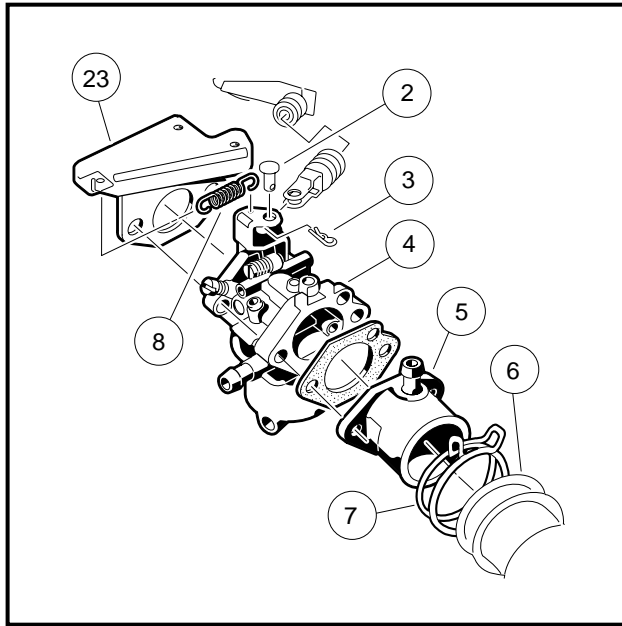

Figure 13-6 Carburetor Removal
3. Loosen air intake hose clamp (7) from intake pipe (5) and remove hose (6) (**Figure 13-6, Page 13-9**).
7. Remove carburetor (4) along with throttle spring (8) and throttle spring bracket (23) (**Figure 13-6, Page 13-9**).